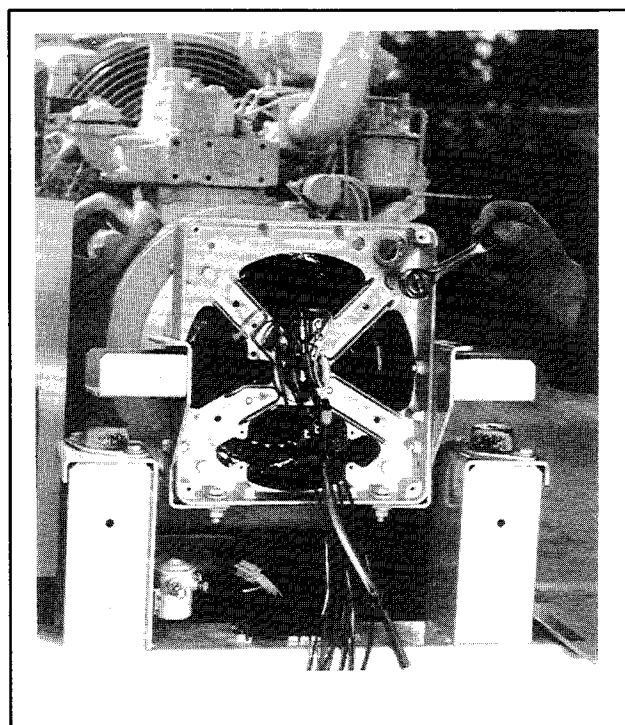

Figure 8-12. Removing Overbolts
14. Remove four overbolts and hardened washers securing end bracket to generator adapter. See Figure 8-12.